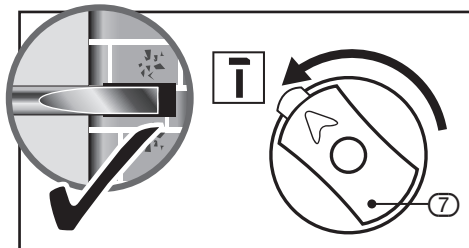

FIG.6
9.3 PNEUMATIC CHISELLING – FIG. 6
– FIG. 6
- To ensure the chisel is facing in the correct direction to the workpiece to be chiselled, rotate the selection dial to the ● position. Manually adjust the chisel to the desired angle, then rotate selection dial (7) back to hammer function.
9.5 TRIGGER SWITCH – FIG. 6